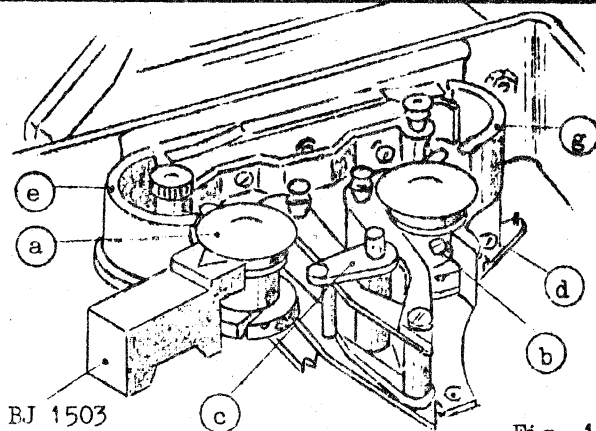

Fig. 1
1. Upper working plate**1.1 Sprockets (fig. 1)**
1.2 Loop formers (fig. 1)